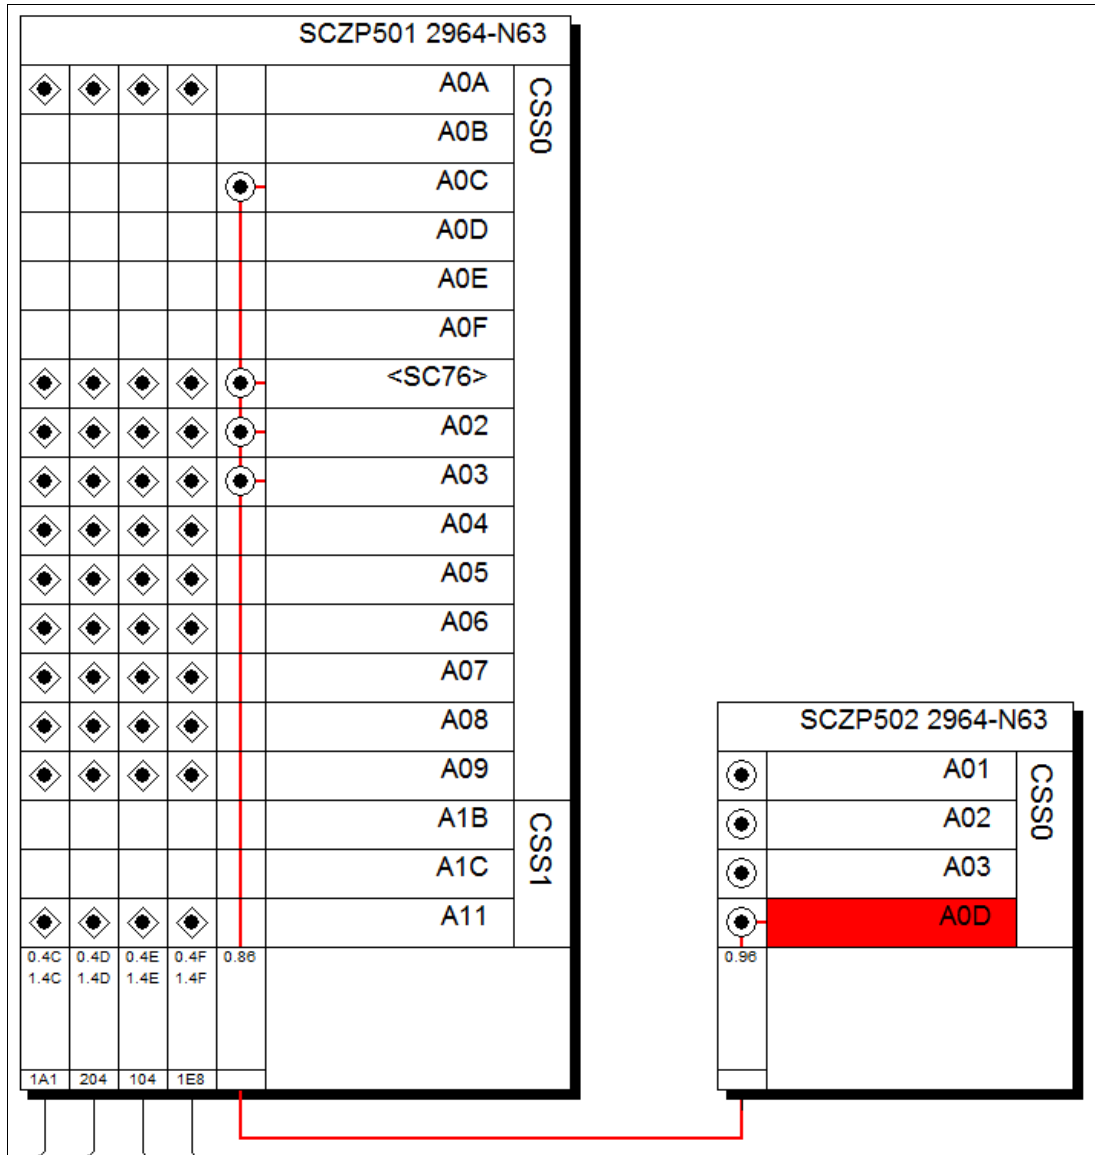

Figure 5-32 HCM - Viewing the CS5 CF link graphically
21. The CF link is now created. To view it, select the **Locate** → **CF connection** HCM menu option or click one of the CPC CHPID definitions and press F4. See Figure 5-32.